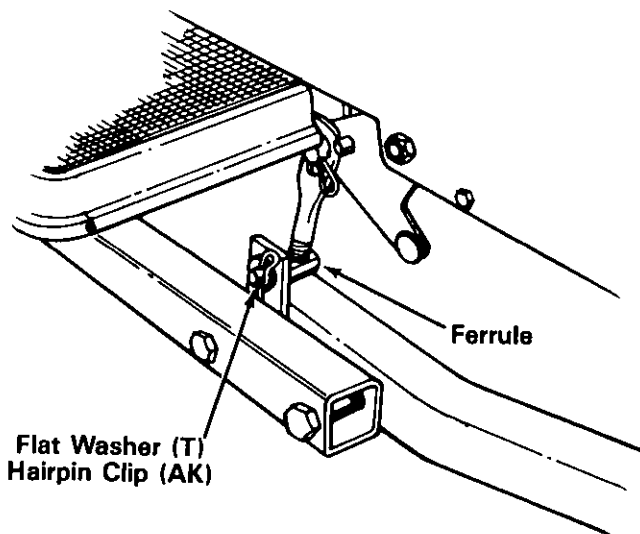

FIGURE 12
13. **Units with serial numbers 126,001 and above:** Attach the ferrules on the adjustment links to the tubing assemblies on snow thrower, using flat washers (T) and hairpin clips (AK). See figure 12.